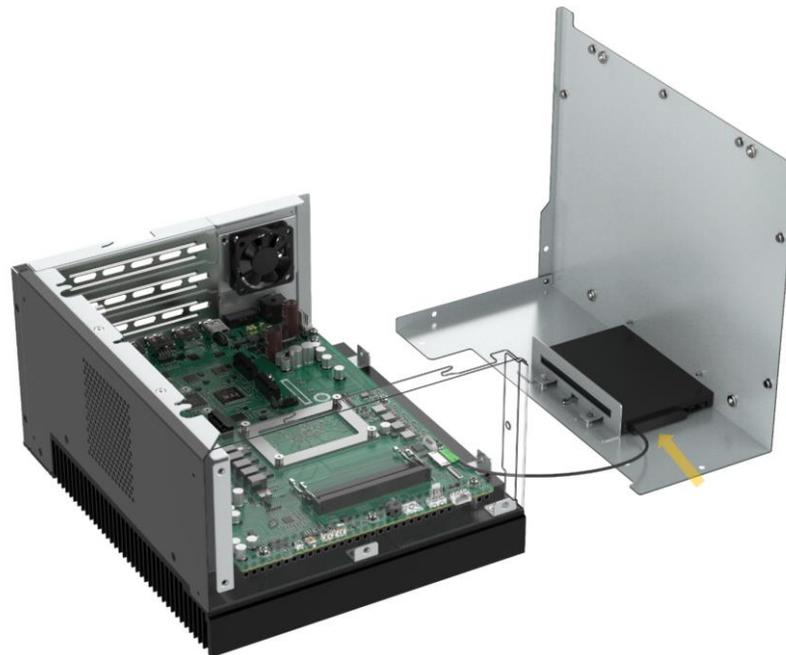

Figure 3-10: Connect the SATA Cable
Step 3: Connect the system's SATA cable to the drive (**Figure 3-10**).